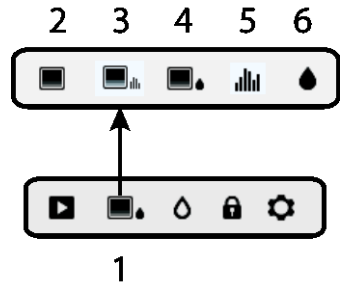

Fig. 5-2 Image mode
Press the Select button to access the Main Menu and then select the IMAGE mode icon (1). Refer to Fig. 5-2. Choose Thermal IR Image-only mode (2), IGM Custom mode, (3), IGM Moisture mode (3), Psychrometrics mode (4), or Moisture-only mode (4). Each mode is described below.